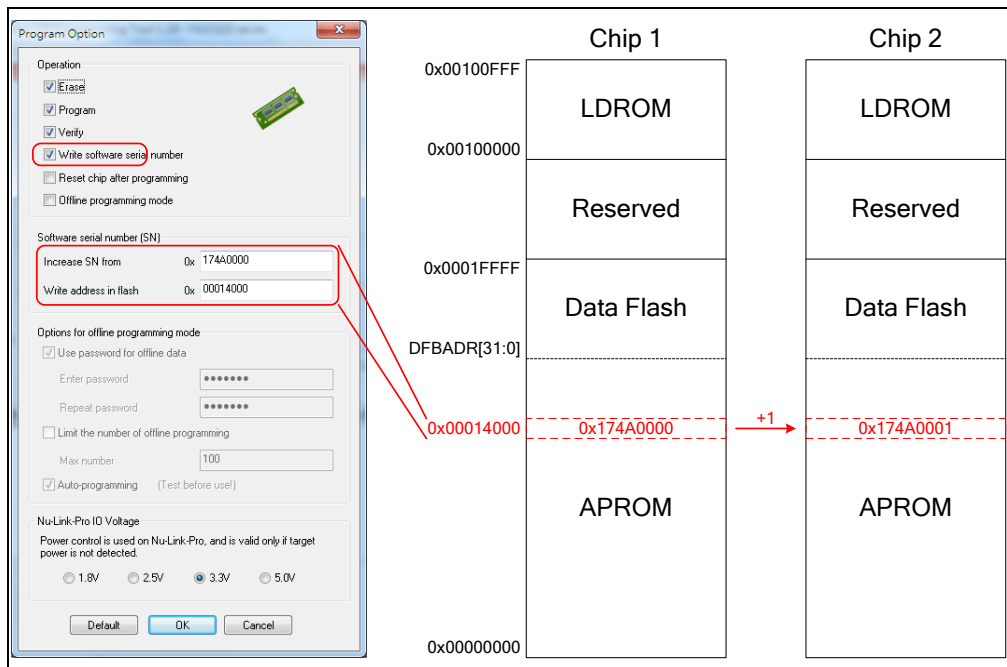

Figure 3-7 Software Serial Number (SN) Settings
3.2.3 Software Serial Number (SN)
The Software Serial Number (SN) function provided by the ICP Tool enables users to specify the value in the “**Increase SN from**” and “**Write address in flash**” fields for the target chip during online/offline programming. Take the NUC140VE3CN chip for example, the user can specify a set of “Increased Serial Number (SN)” and “Write Address” to any of APROM, LDROM, and Data Flash, and the written Serial Number (SN) will be automatically incremented (as shown in Figure 3-7).